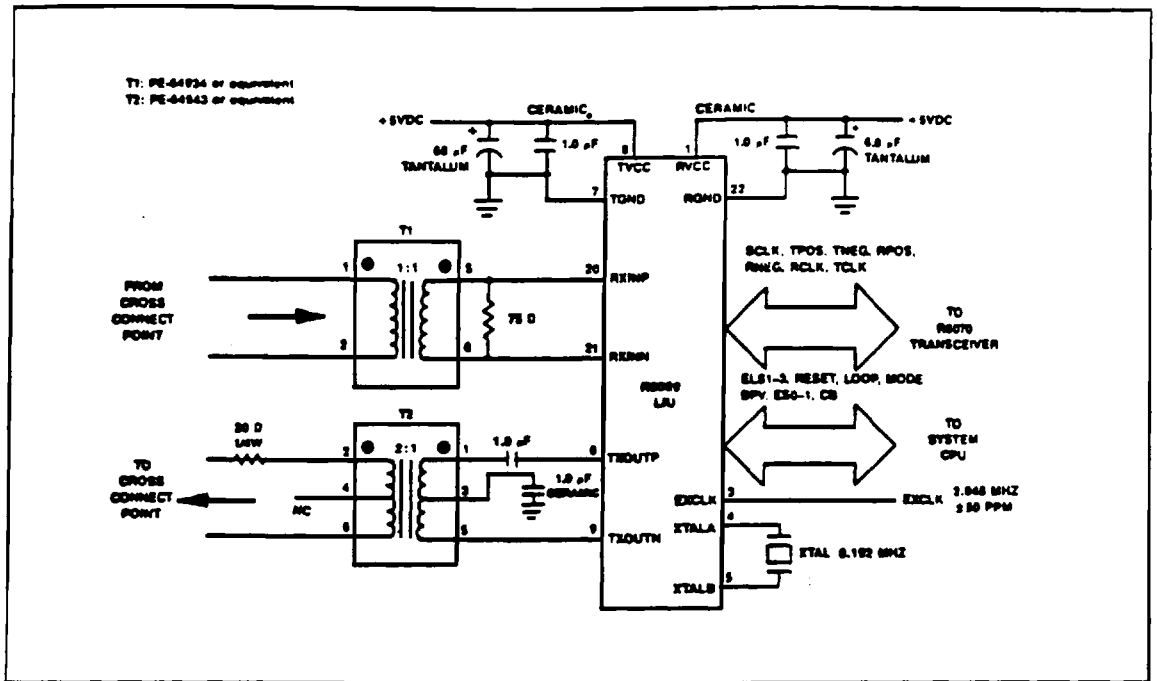

Figure 5. Connection to 75 Ohm CEPT Coax Cable
The R8069 LIU contains both analog and digital circuitry which independently process transmit and receive primary rate voice or data information. Circuitry to provide master, slave, local loopback, and remote loopback is also included. A simplified block diagram of the R8069 LIU is depicted in Figure 4. Typical R8069 LIU connections in CEPT and T-1 applications are shown in Figures 5, 6, and 7.
Three encoded inputs, ELS1-ELS3, allow selection of cable length equalization and clock rates (Table 2). Equalization of cable length of 0-660 feet in increments of 110 feet is selectable for T-1 line. A 20 Ω resistor should be connected in series with 75 Ω coaxial cable connector (see Figure 5 and Table 2).
2. See Figures 5 and 6.
3. If the selected equalization line code is ELS3 = H, ELS2 = H, and ELS1 = L, then a 20 Ω resistor is required at the line side of the transmit transformer (see Figure 5). This is the recommended mode in a 75 Ω PCM30 application to ensure that the pulse shape meets G.703.